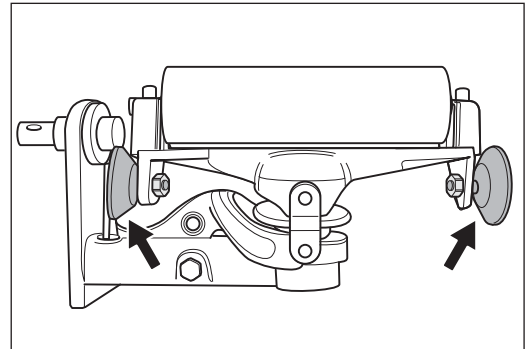

Fig. 72 The two guide rollers at the drive unit **must be rotatable easily!** Otherwise they **must be replaced (RISK OF FIRE!)**
- The two guide rollers at the drive unit must be rotatable easily (fig. 72)!